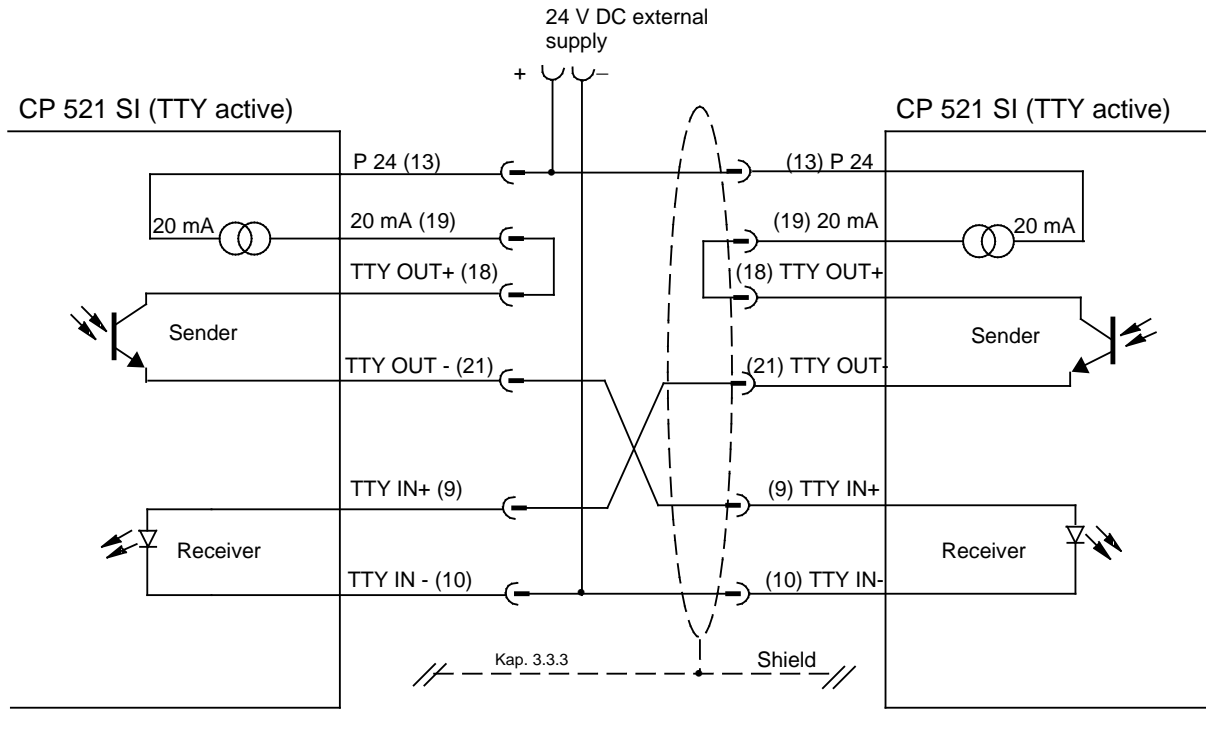

Figure 8.4 Terminal Diagramm CP 521 SI (TTY Active) - CP 521 SI (TTY Active)
4. Connect the current source (pin 19) directly to the send transistor of the sender (Fig. 8.4)